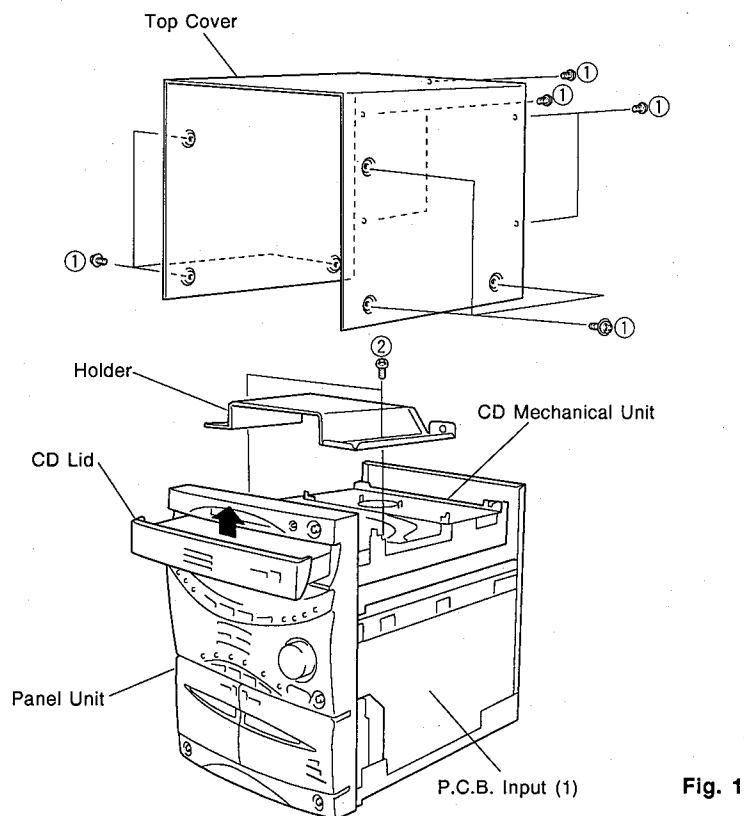

Fig. 1
- ⑤ P.C.B. MAIN (2)
- ⑥ P.C.B. MAIN (1)
- ⑦ P.C.B. TUNER
- ⑧ CASSETTE DECK MECHANISM (PB)
- ⑨ CASSETTE DECK MECHANISM (R/P)
Remove 11 screws (①) in Fig. 1.
- Pull the Tray forward approx. 5cm (2") and remove the CD Lid as shown in Fig. 1.
- Remove 2 screws (②) and then remove the Holder in Fig. 1.